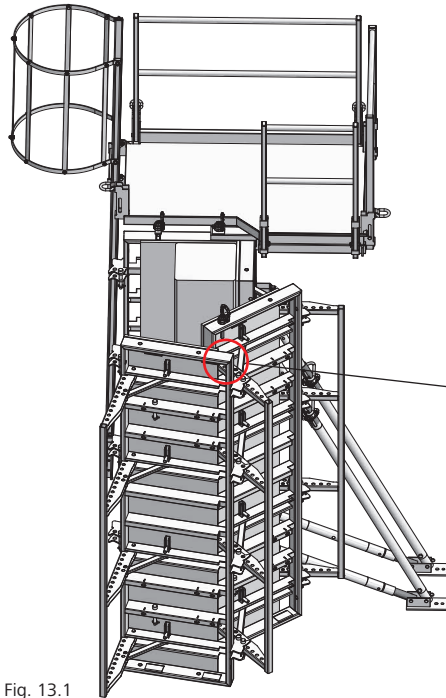
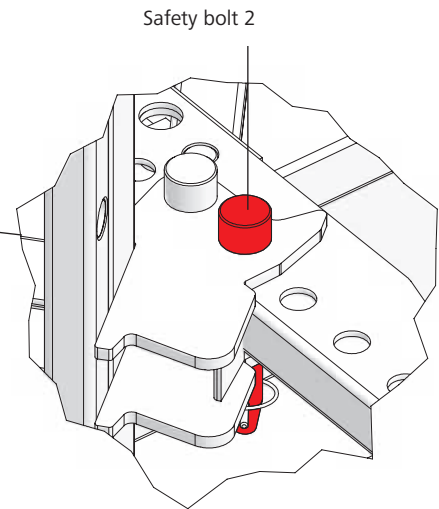

Fig. 13.1
Fig. 13.2 Detail
5. Swing out the column formwork until the mounting lug and the perforated profile can be locked with safety bolt 2 (Fig. 13.1 and Fig. 13.2 Detail).